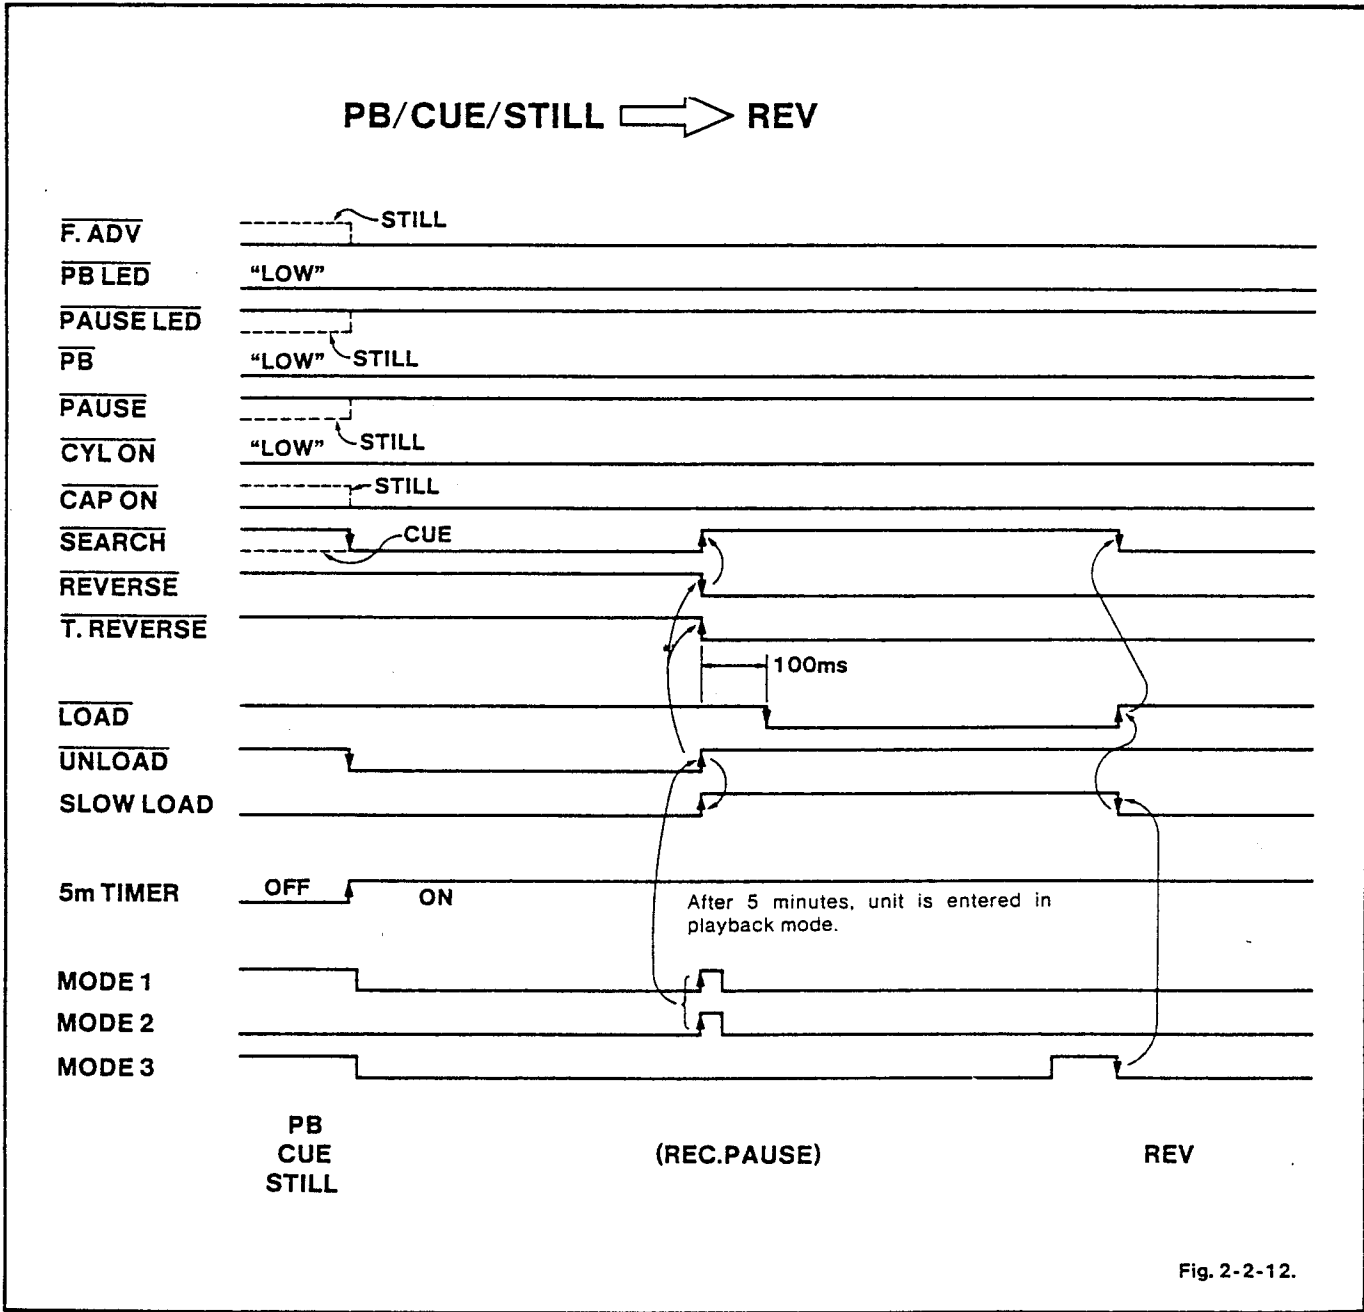

Fig. 2-2-12.
8) PB/CUE/STILL — REV (See Fig. 2-2-12)